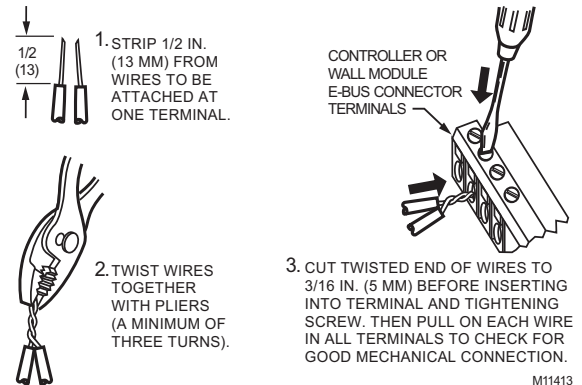

Fig. 5. Attaching Two Wires (20 to 22 AWG) to Wall Module Terminals.
2. If two or more wires (20 to 22 AWG only) are being inserted into one terminal, twist the wires together before inserting. See Fig. 5.